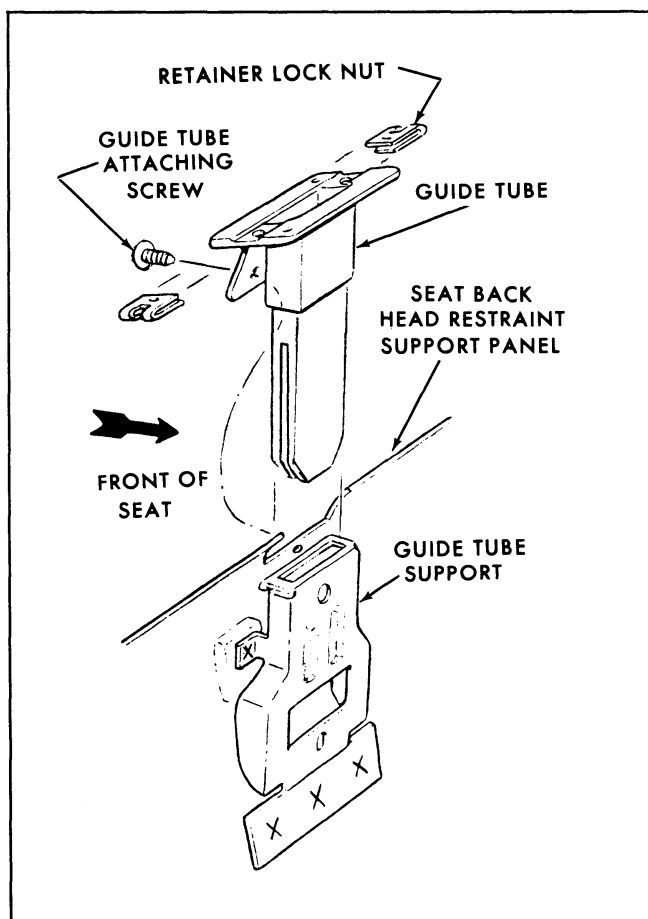

Fig. 9-47-Head Restraint Guide Tube Typical of All Conventional Seats
3. Remove screw securing guide tube and slide guide tube out of support (Fig. 9-47).